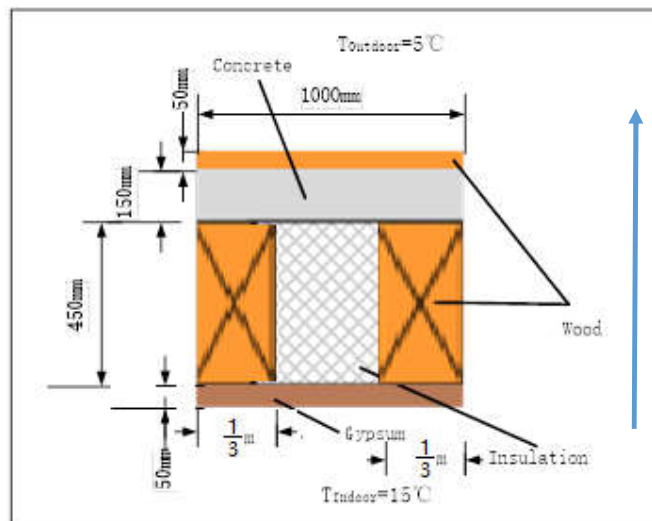

Figure 1. Multiple-layer wall structure
1.2 A multiple-layer wall is exposed to 5°C and 25°C air with corresponding convective heat transfer coefficients $10\text{W}/(\text{m}^2\text{K})$ and $5\text{W}/(\text{m}^2\text{K})$, respectively, see Figure 1. Determine the overall heat transfer rate of the wall.